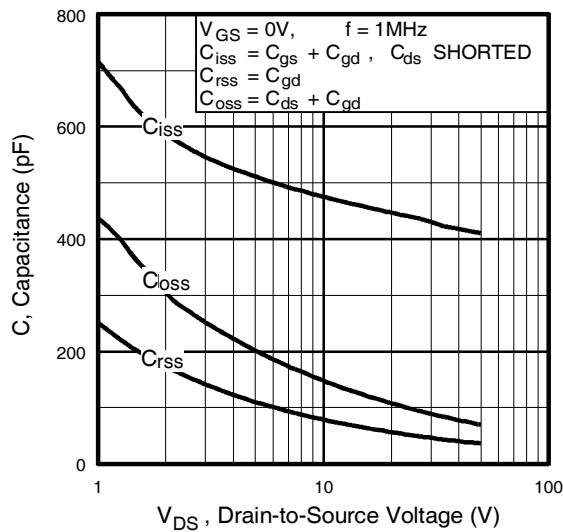

Fig 5. Typical Capacitance Vs.
| C_{rss} | Reverse Transfer Capacitance | — | 50 | — | | $f = 1.0\text{MHz}$, See Fig. 5 ⑥ |